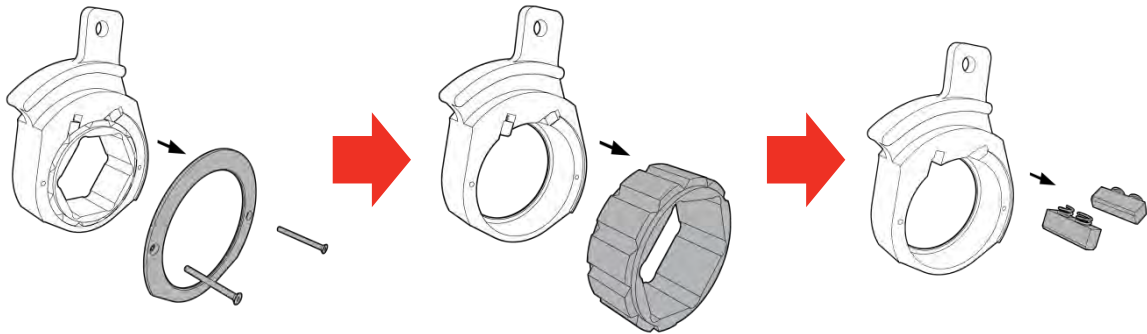

FIGURE 15 – Disassembling the Hex Link Cassette
2. Disassemble the Hex Link Cassette (see FIGURE 15).